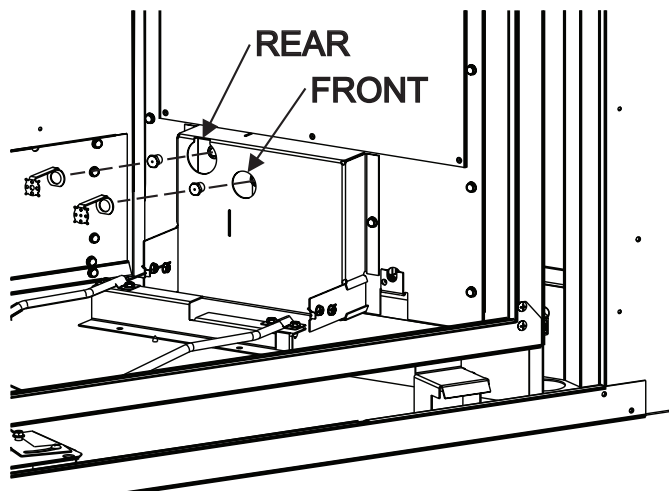

Figure 5
7. Locate the orifice marked "32." Use a 7/16 inch deep socket set to install orifice marked "32" onto rear orifice holder. Use needle-nose pliers, screw rear target onto rear orifice holder. **See Figure 5.**
8. Locate the orifice marked "41." Use a 7/16 inch deep socket set to install orifice marked "41" onto front orifice holder. Use needle-nose pliers to screw front target onto orifice holder. **See Figure 5.**